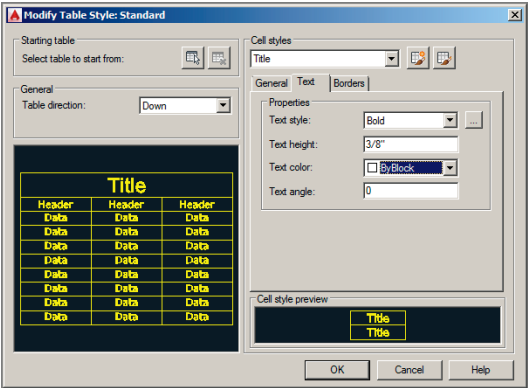

FIGURE 15.16 Editing the Title cell style text properties
- 3. Select the Text tab within the Modify Table Style: Standard dialog box. Open the Text Style drop-down menu, and select Bold. Double-click the Text Height text box, and type 3/8 (or 0.80 cm) and press the Tab key (see Figure 15.16).